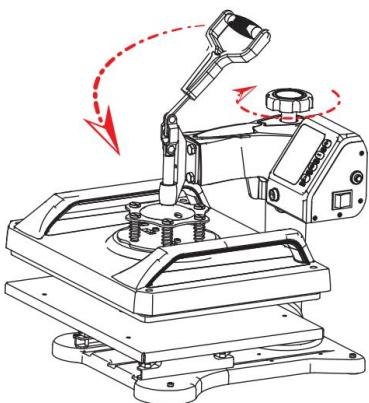

Fig 8
8. Rotate the handwheel and try to press the handle several times until it is adjusted to the appropriate pressure(as shown in figure8).